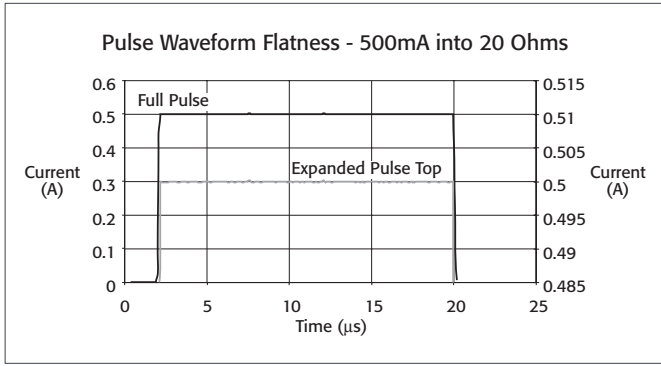
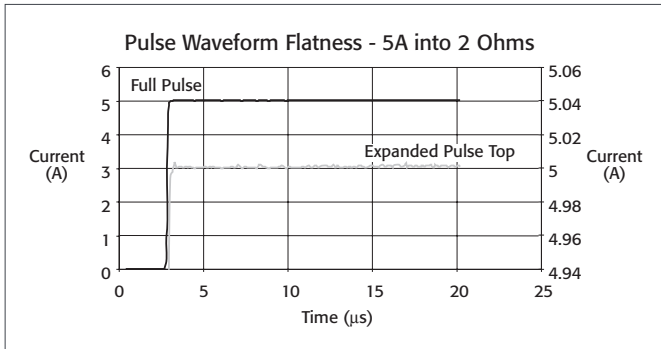

FIGURE 1
FIGURE 2
**FIGURE 1.** This schematic reflects the current testing practices of major laser diode manufacturers. Note that the use of discrete test components increases the integration and programming effort, while severely limiting the flexibility of the test system.
**FIGURE 2.** The Model 2520 integrates synchronization, source, and measure capabilities in a single half-rack instrument (with remote test head) to provide maximum flexibility and test throughput.
The mainframe and remote test head architecture of the Model 2520 is designed to enhance pulsed measurement accuracy, even at the sub-microsecond level. The remote test head ensures the measurement circuitry is located near the DUT, mounted on the fixture, minimizing cable effects. As the schematic in **Figure 1** shows, traditional semi-custom systems typically employed in the past require significant integration. The architecture of the Model 2520 (**Figure 2**) offers a far more compact and ready-to-use solution.
- Figures 1 and 2** are typical pulse outputs into resistive loads.